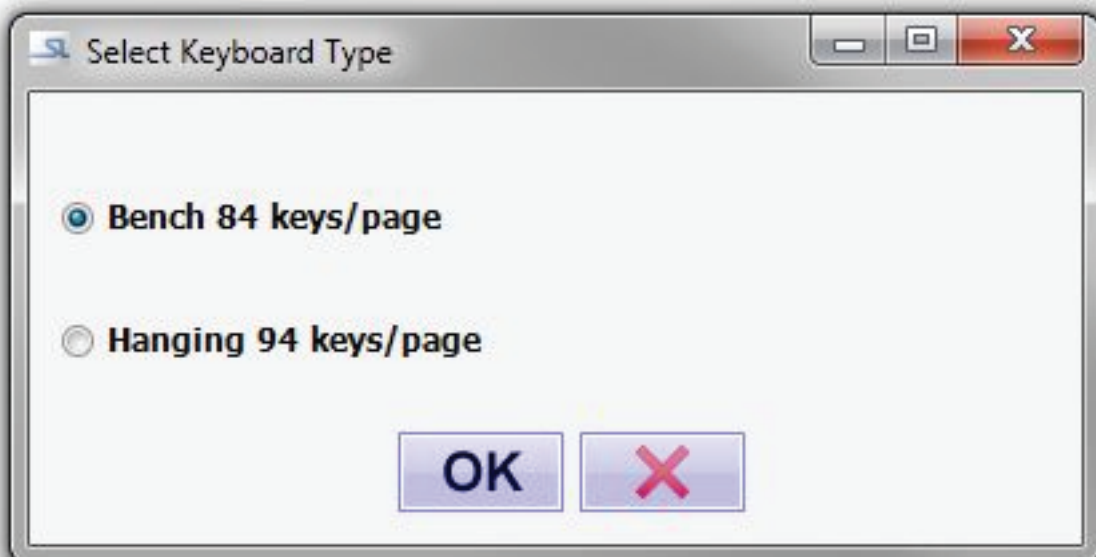

Figure 27-2
3. Select Bench 84 keys/page from the Select Keyboard Type dialog box. See Figure 27-2.